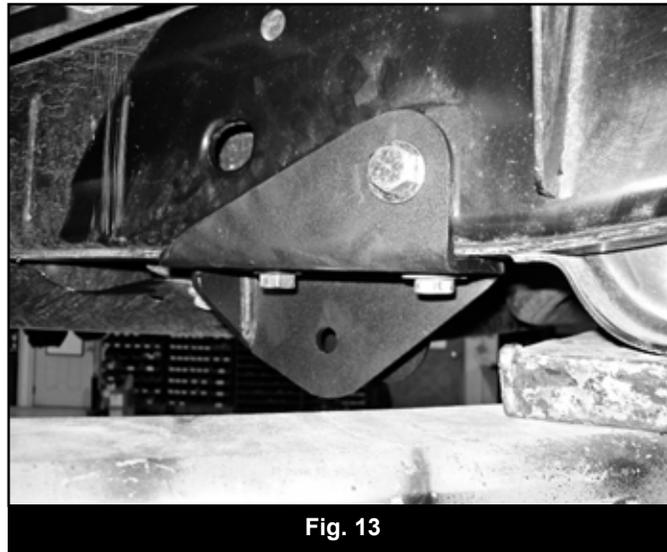

Fig. 13
28. With all of the LCA mount hardware installed, torque fasteners to 65 ft-lbs. The OE skid plate bolt should be the last bolt to be tightened (Fig 13).